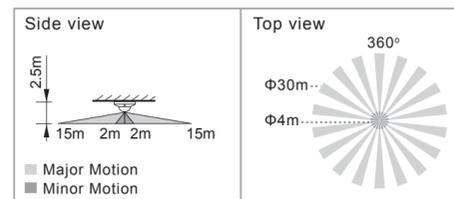

FIG.2
3.1.1 The sensor can be installed at the height of 2 - 3m, it's recommended to install it at the height of 2.5m to gain the optimal detection pattern, the detection range can reach up to the diameter of 30m and 360° detection angle (See FIG.2).